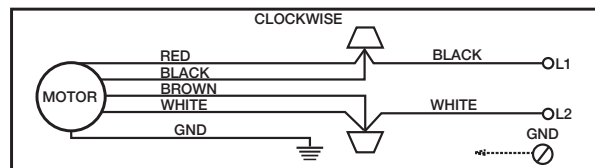

Figure 6
5. Slide the upper canopy (B) up the rod to within 1/4” of the ceiling or beam and securely tighten the set screw (F).
6. If a remote speed control or reverse switch is to be used refer to the Instruction Manual included with that controller for proper installation and wiring. Refer to Figures 6 and 7 for proper installation and wiring if no remote speed control or reverse switch is to be used.